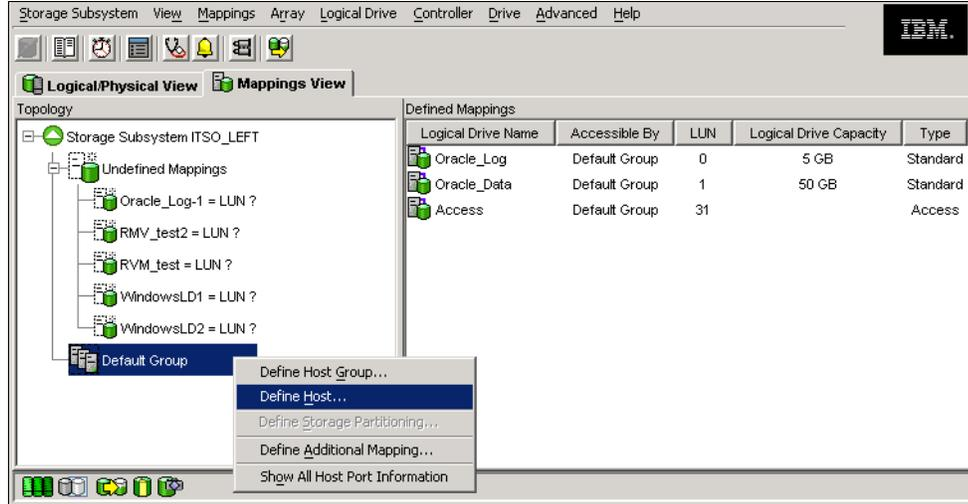

Figure 5-59 Selecting Define Host
1. Right-click **Default Group** and select **Define Host**, as shown in Figure 5-59.